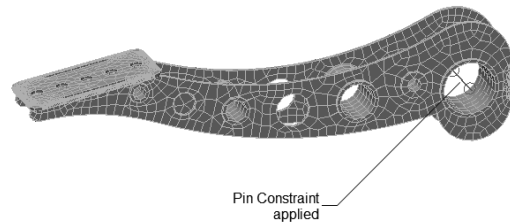

Figure 8-83 The rotated view of the model with pin constraint applied
- Select the **Fix Radial** and **Fix Axial** check boxes from the **Constraints** area of the dialog box. Next, choose the **OK** button; the pin constraint is applied. Figure 8-83 shows the rotated view of the model with the pin constraint applied.